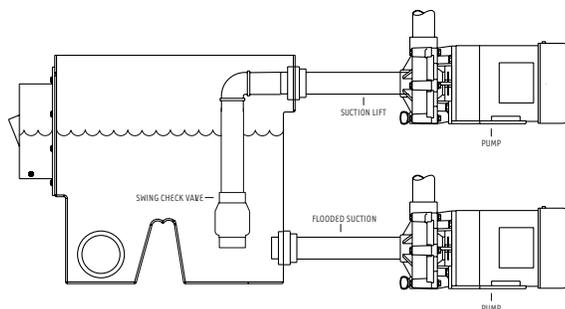

Figure 9
**Optional:** Some external pumps or plumbing layouts may require a check valve or foot valve to be installed below the water line to help maintain prime of the pump. This check valve can be installed on the inside of the PSMEX to accomplish this (figure 9).